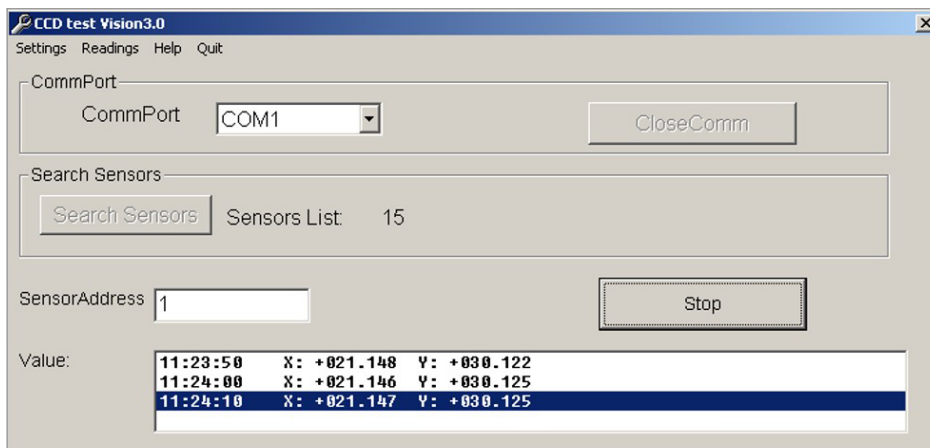

FIGURE 42: Updated Sensor Address
4. To fix this error, the sensor address must be updated in the SensorAddress field on the main screen. In Figure 42 the sensor address has been updated from the original address of 15 to the new address of 1, causing the readings to display properly.